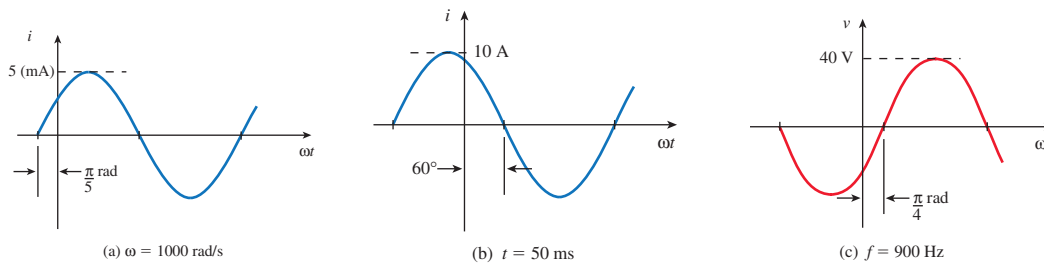

FIGURE 15–84
35. Write equations for the waveforms of Figure 15–84. Express the phase angle in degrees.